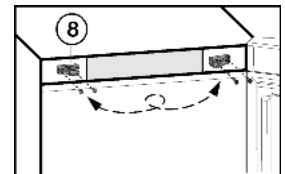

Fig. 17
- ▶ Unscrew bearing part Fig. 17 (8), turn it 180° and move it to the opposite side. Make preliminary holes (optional) or use a cordless screwdriver.